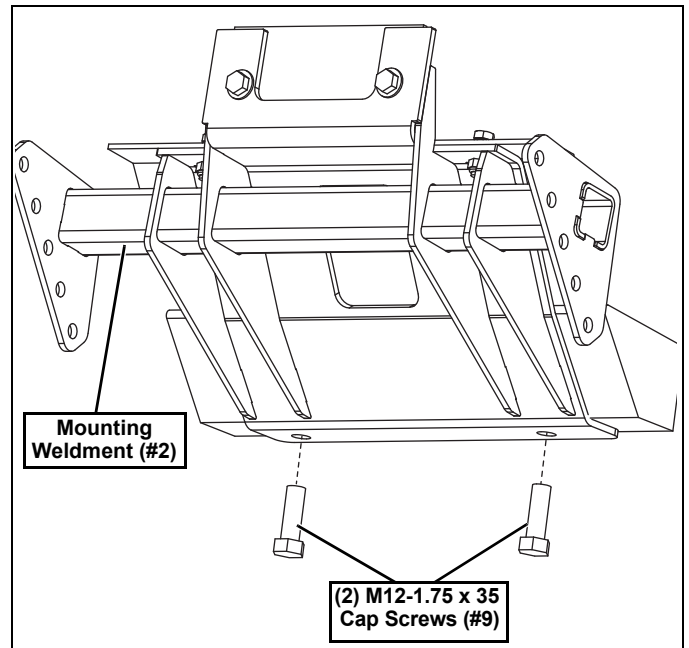

Figure 6
8. Place the M12-1.75 x 35 Cap Screws (#9) that were removed in step 3 back into position, but insert through the Mounting Weldment (#2) first. (See Figure 6.)